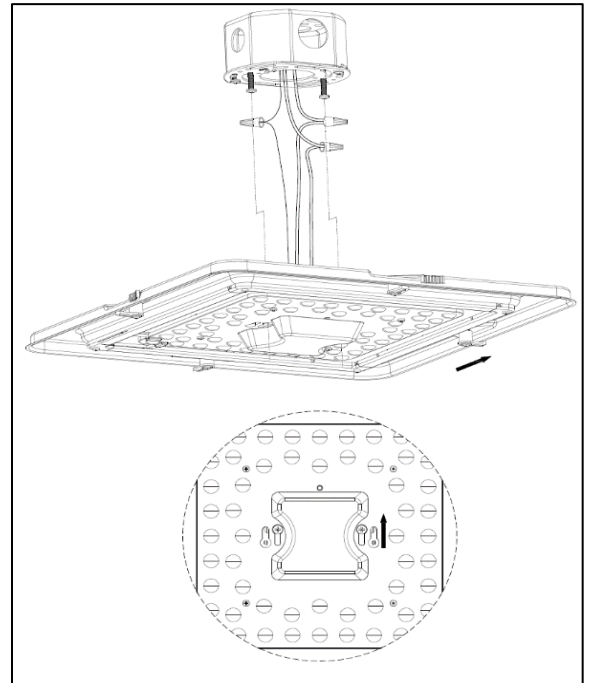

Figure 10
5. Hold housing assembly (2) in one hand and with the other hand position wires up and into Junction box. (See Figure 10).
6. Slide the housing assembly (2) into keyhole's lock position. (See Figure 10).